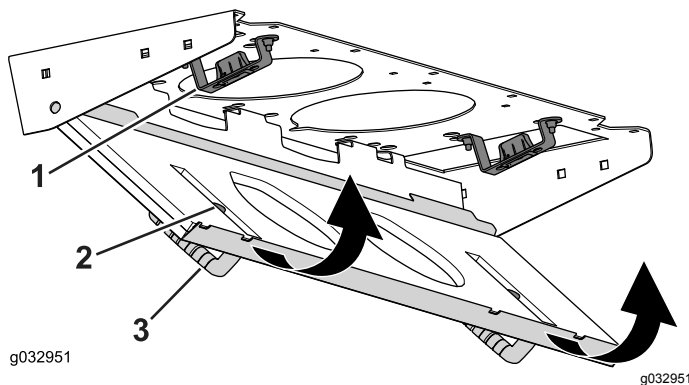

Figure 135
4. Rotate the filter screen around the tabs until the latch locks into the latch-mount assembly (Figure 135).